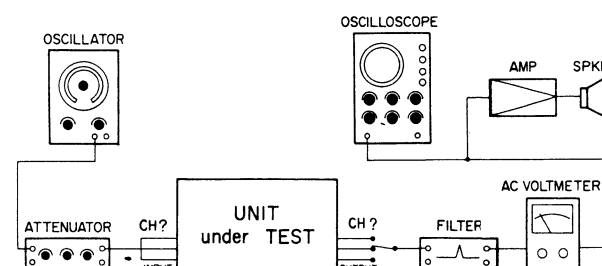

Fig. 2-18. Crosstalk Measurement Set-Up
1. Connect test equipment as shown in Fig. 2-18.